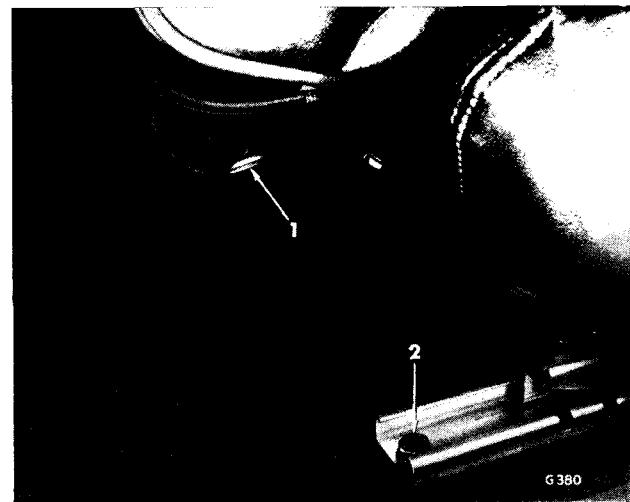
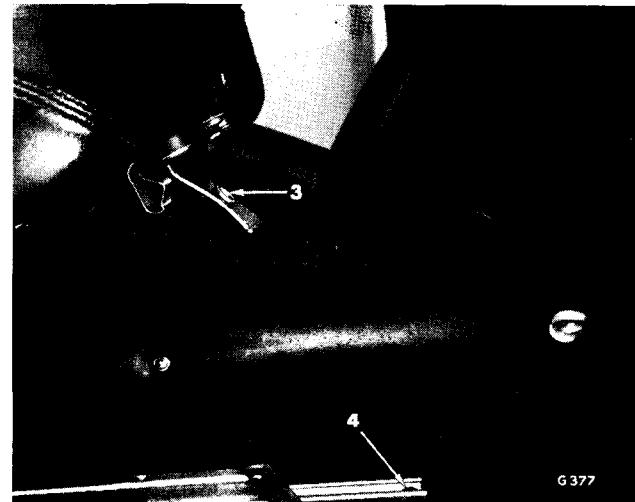

Fig. 29. Seat front attachment
Fig. 30. Seat rear attachment
Pull off the press-studs (1) (Fig. 29) and (3) (Fig. 30) and lift clear.
Remove two bolts (2) (Fig. 29) and two bolts (4) (Fig. 30).